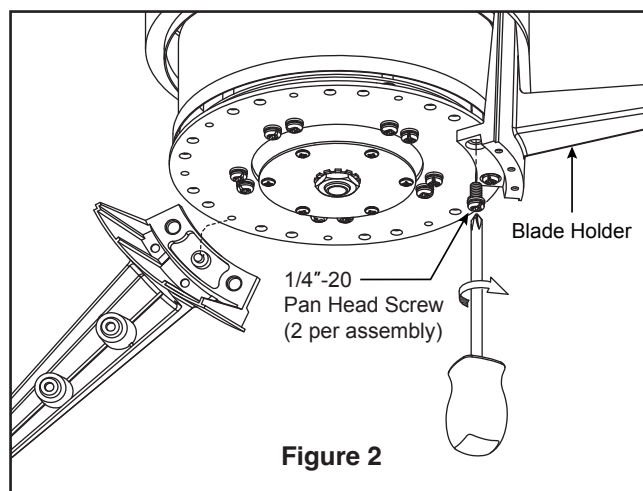

Figure 2
2. Secure the blade holders to the flywheel using the 1/4"-20 pan head screws, the post on the blade holder need to align the hole between the 1/4"-20 threaded holes located on the bottom of the flywheel. (Figure 2)
- ☐ 2. Remove the three screws in the light plate assembly. Assemble the light kit assembly to the light plate assembly using the previously removed screws. (Figure 2)
- ☐ 2. Restore electrical power to the outlet box by turning the electricity on at the main fuse box. (Figure 2)